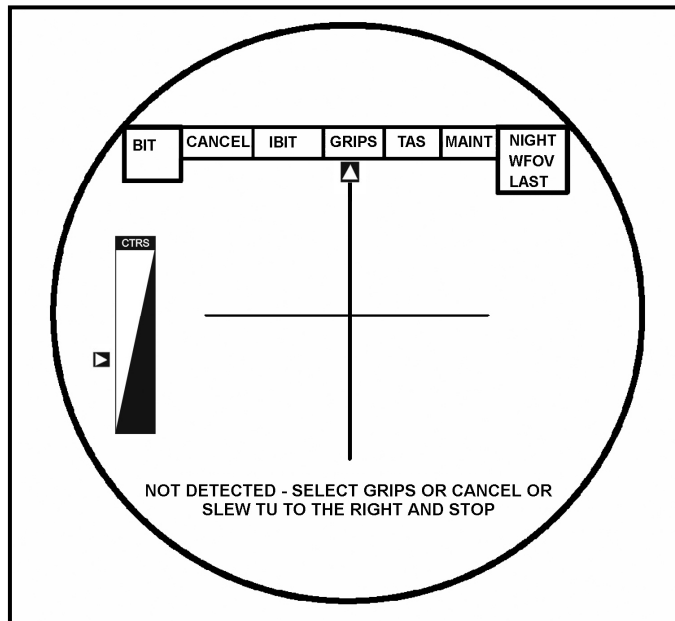

Figure E-5. Action not detected by software.
- a. A message similar to the one in Figure E-5 will appear if the software does not detect the action required by each prompt. This message will display indefinitely until the gunner either selects GRIPS or CANCEL or performs the action requested.